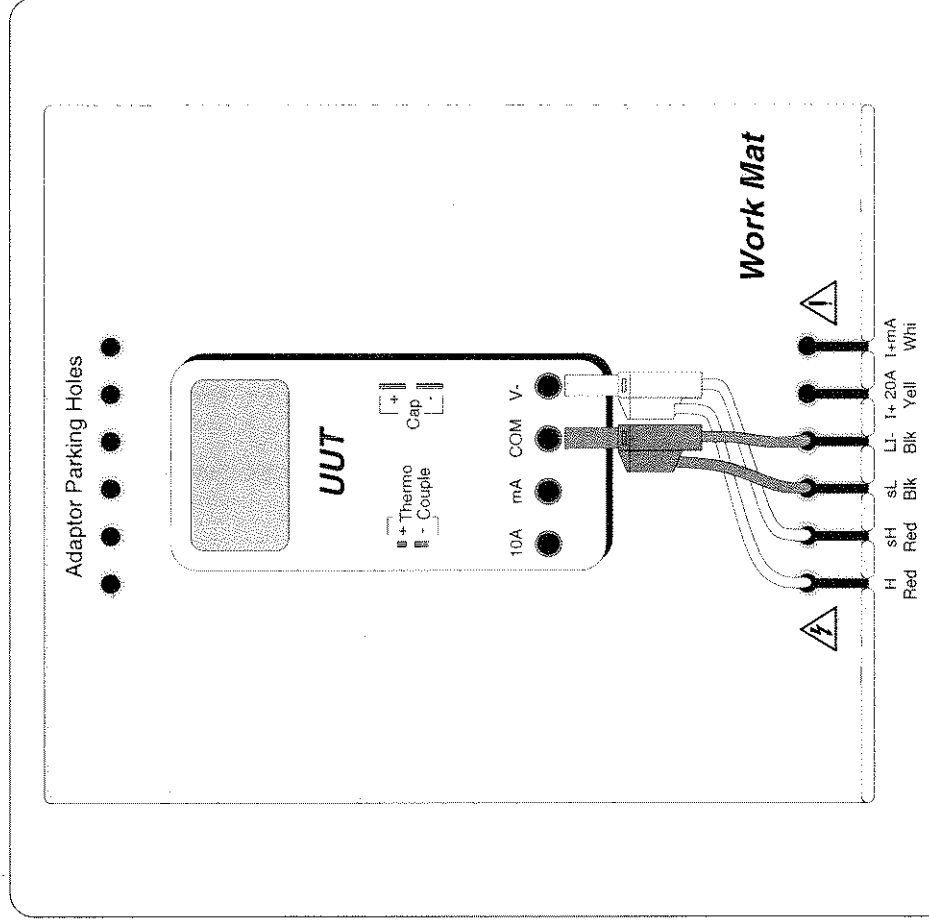

Fig. 4.15.4 Interconnections for UUT RTD Temperature Calibration
The general connection scheme for UUT calibration is illustrated in Fig. 4.15.4. The use of either 4-wire remote sensing at the UUT terminals, or 2-wire local sensing at the 9100 terminals, is served by the same connections from the 9105 at the work mat. Selection of 2/4-wire is carried out on the 9100 front panel.
1. **Connections** Connect the 9100 to the UUT as shown in *Fig. 4.15.4*, and ensure that both instruments are powered ON and warmed up.